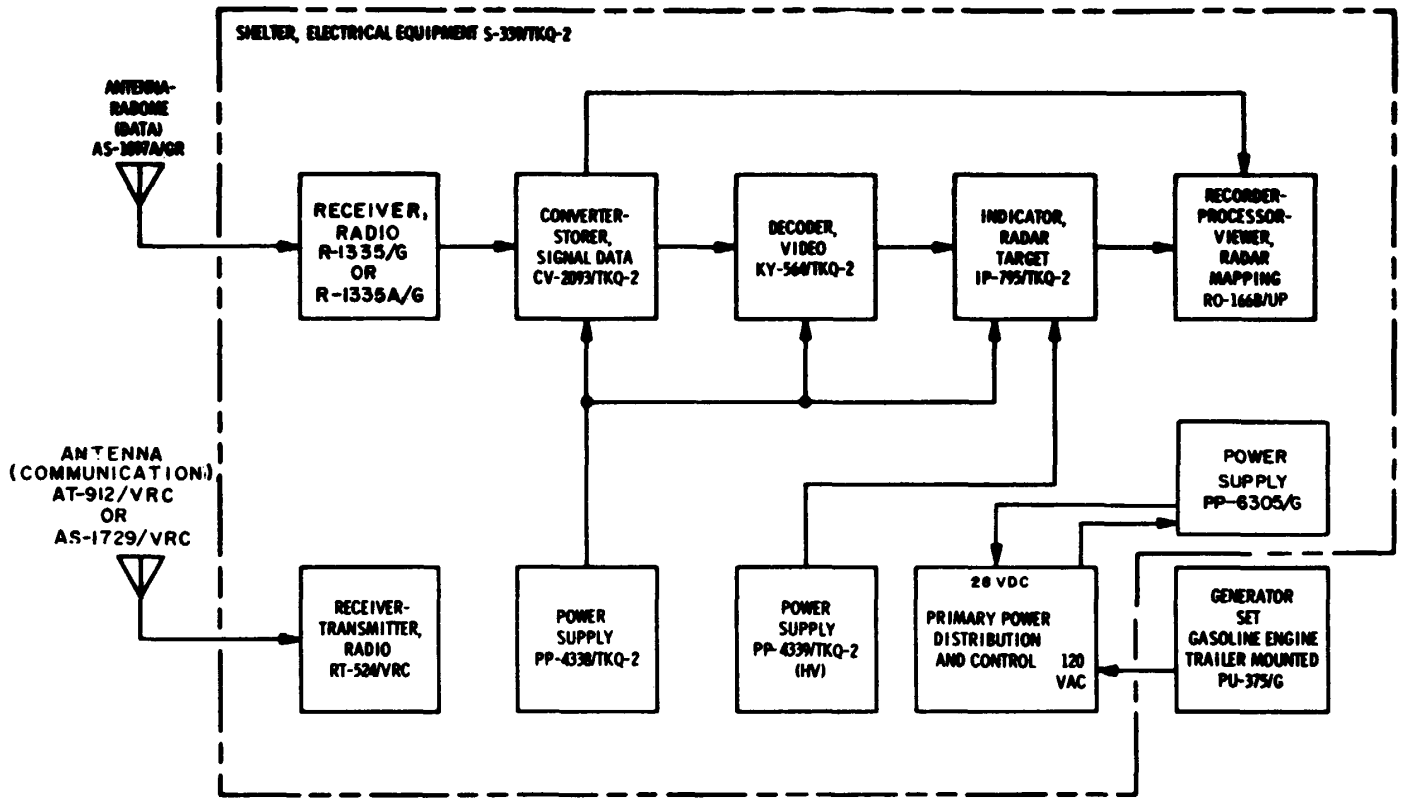

Figure 1-2. Receiving Set, Radar Data AN/TKQ-2, block diagram
f. Signal flow through components of the AN/KQ-2 is shown in figure 1-2.